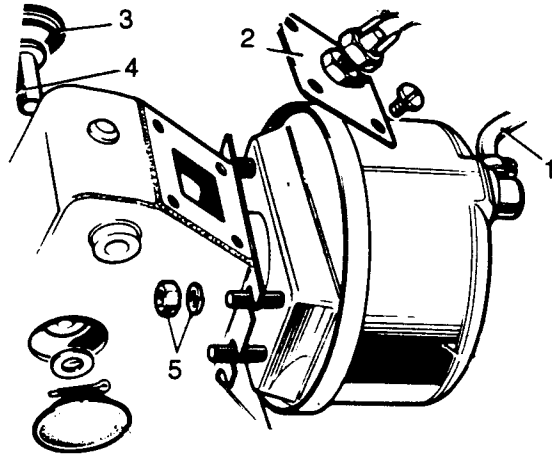

Fig K1.20
- (1) Refer to Fig K1.20. Position the servo assembly and tighten the fixings (5) to 12 N.m.
- (2) Secure the servo rod to the pedal with the clevis pin (4) and fit a new split pin.
- (3) Refit the rubber plugs (3) to the pedal box.
- (4) Refit the switch plate (2).
- (5) Reconnect the vacuum hose (1) to the assembly.